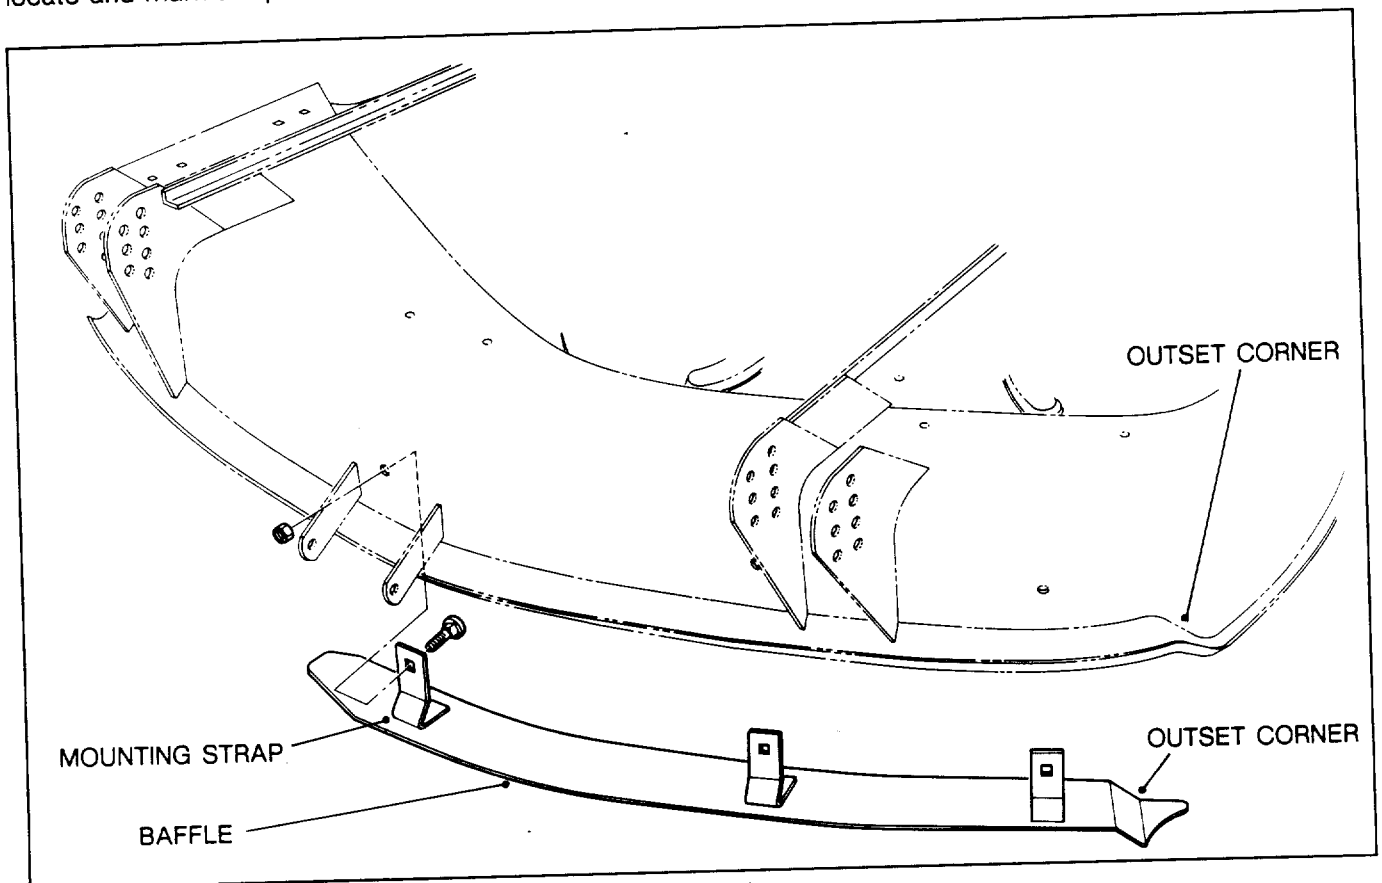

Figure 1
1. Position the baffle under the deck with the outset corner pushed up flush against the outset corner of the deck (Fig.1). The front edge of the baffle should rest up tight against the front lip of the deck.
in deck. Drill (3) 7/16" dia. holes thru deck at locations marked (Fig.1).
3. Secure the baffle to the underside of deck with the (3) carriage bolts and locknuts supplied with kit. Locknuts to be positioned on outside of deck.